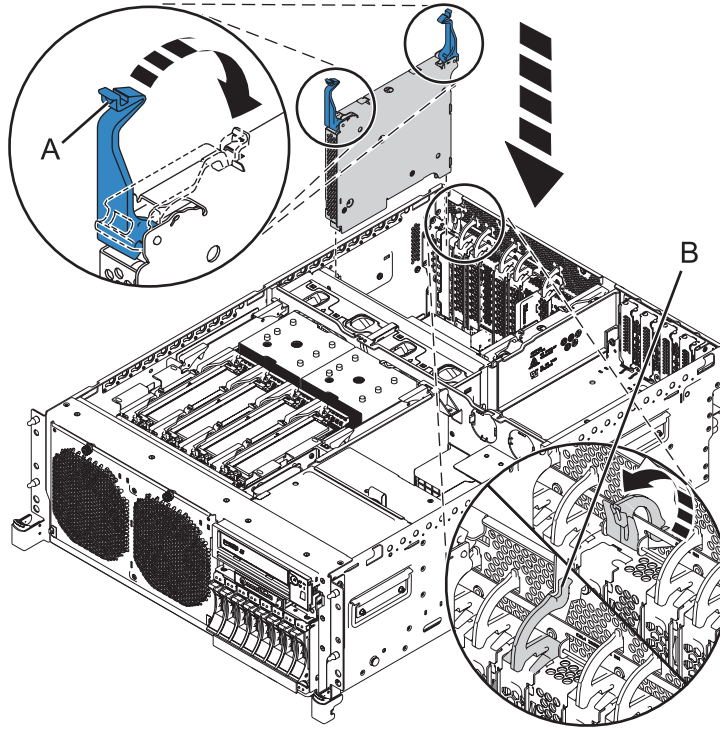
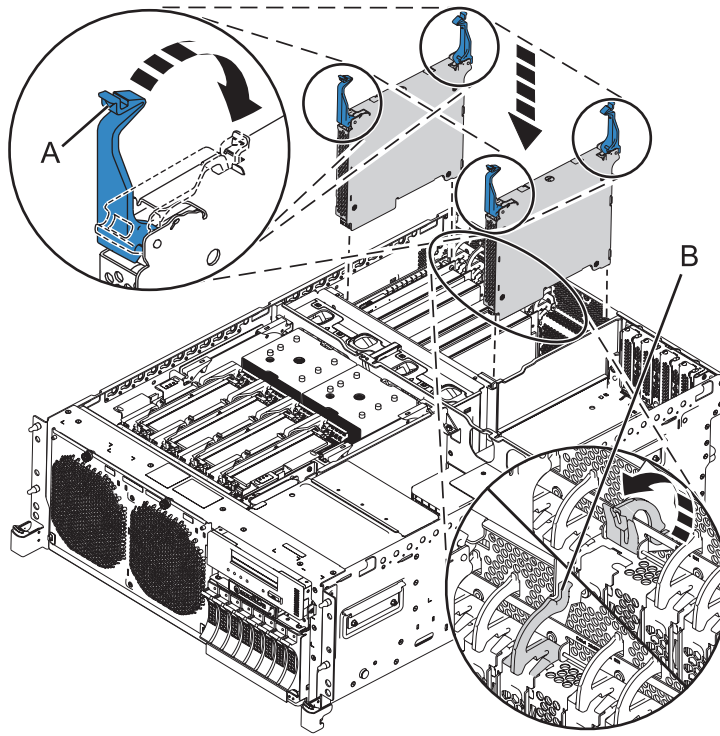

Figure 9. Installing the GX adapter in a rack-mounted 02E/4B or 05F/6B system
Figure 10. Installing the GX adapter (FC EJ03) in a rack-mounted 02E/4C, 02E/4D, 05E/6C, or 05E/6D system
3. Evenly rotate the latches **(A)** into the locked position, as shown in Figure 9 on page 12 and Figure 10 on page 12.